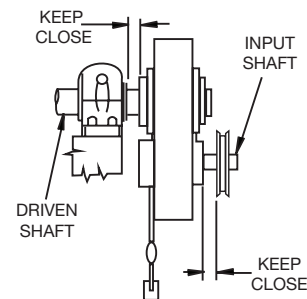

Figure 2 - Sheave Installation
4. Install sheave on input shaft as close to reducer as practical. (See Fig. 2)